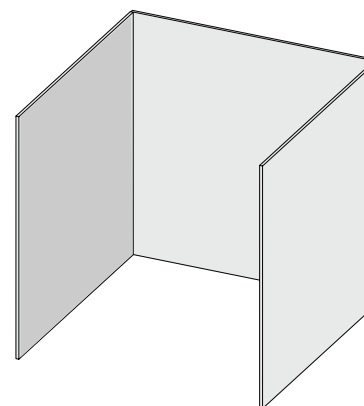

Fig. 1
- An appliance is considered to be outdoors if installed with shelter no more inclusive than with walls on three sides, but with no overhead cover. (Fig. 1)